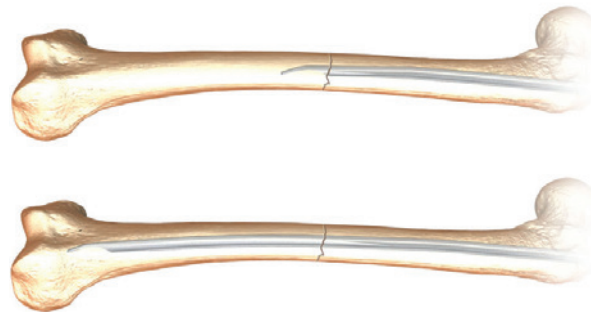

Figure 14
7. Pass the Ball Tip Guide Rod through the back of the T-handle and insert to the desired depth using the Reducer's curved tip to avoid any areas of comminution (Figure 14).